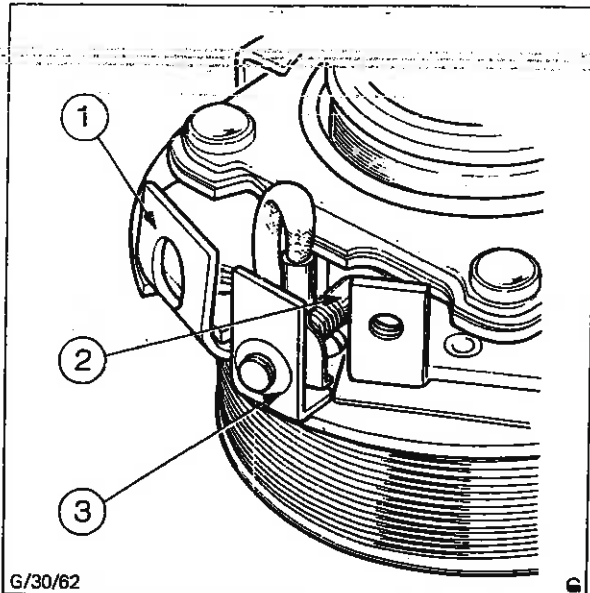

Fig. 22 - Solenoid Terminal and Insulators
5. Place the solenoid terminal, solenoid terminal insulator, and main terminal insulator on solenoid assembly as shown in Fig. 22.